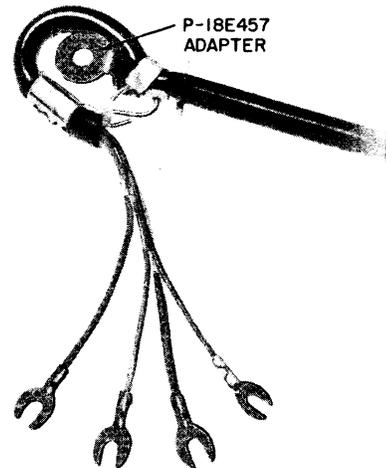

Fig. 10—D4BP Cord and Adapter
- (1) Remove P-18E457 adapter from cord (Fig. 10).